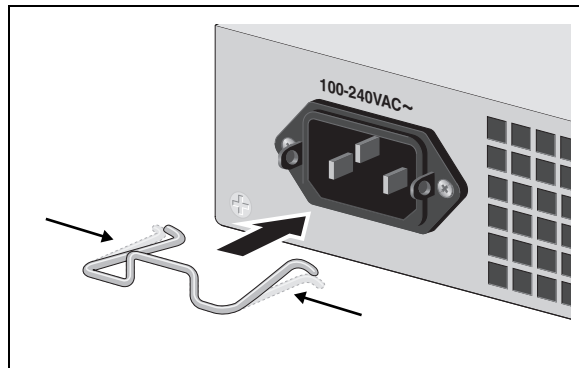

Figure 30. Inserting the Retaining Clip into the Retaining Bracket
2. Install the clip on the AC power connector on the rear panel of the switch. With the “u” of the clip facing down, press the sides of the clip toward the center and insert the short ends into the holes in the retaining bracket, as shown in Figure 30.